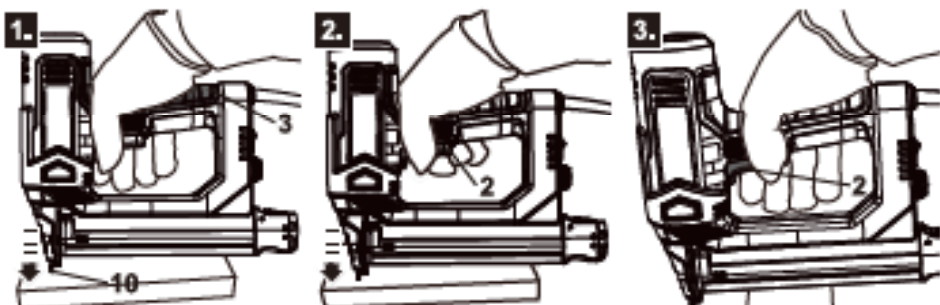

Fig. 10
2. Insert a required nail strip (16) in the magazine (8).
3. Turn the impact force control (14) to a suitable setting.
5. Hold the product firmly on the handle grip (3) with one hand. **Always** keep your hand away from the nailer head (9).
6. Press the safety yoke (10) onto the material/workpiece that you want to nail (Fig. 10, step 1).
7. Maintain the contact pressure and briefly press the trigger (2) (Fig. 10, step 2).
8. Once the nail from the nailer head (9) has been completely driven in, release the trigger (2) and lift the safety yoke (10) from the workpiece (Fig.10, step 3). Never fire again at the same spot.